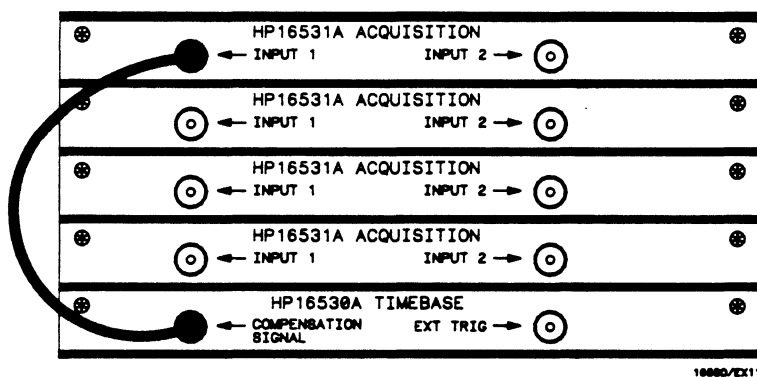

Figure 4-4. Delay Cal Equipment Hookup
- b. Connect compensation signal to INPUT 1 of top acquisition card as shown in figure 4-4.